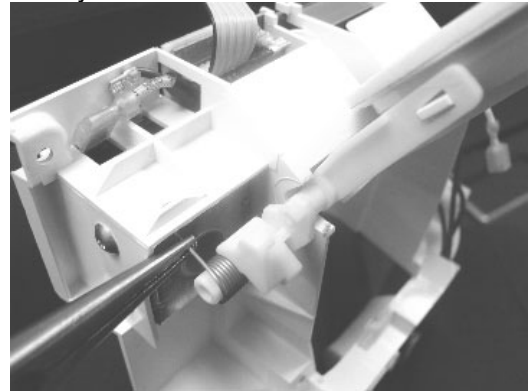

Figure 8
18. Rotate spring counter clockwise 1/2 revolution. Insert the end of the spring into the opening on the fountain bracket (see Figure 8).